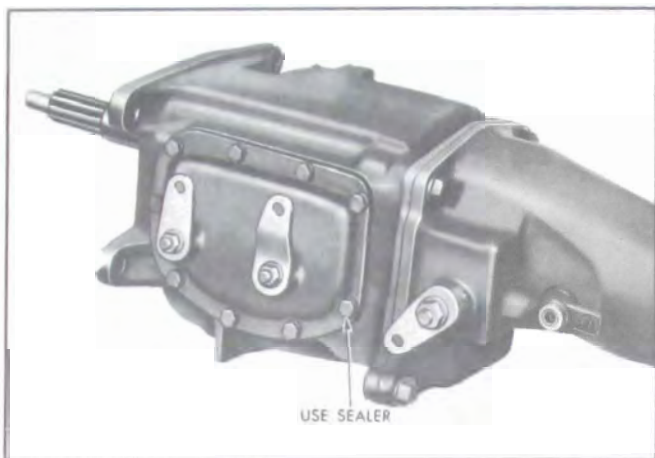

Figure 4-44—Transmission Side Cover Assembly
3. With transmission in neutral and shifter forks and levers in place, lower side cover into place. Install attaching bolts, using sealer and lower right bolt (see fig. 4-44), and tighten evenly.